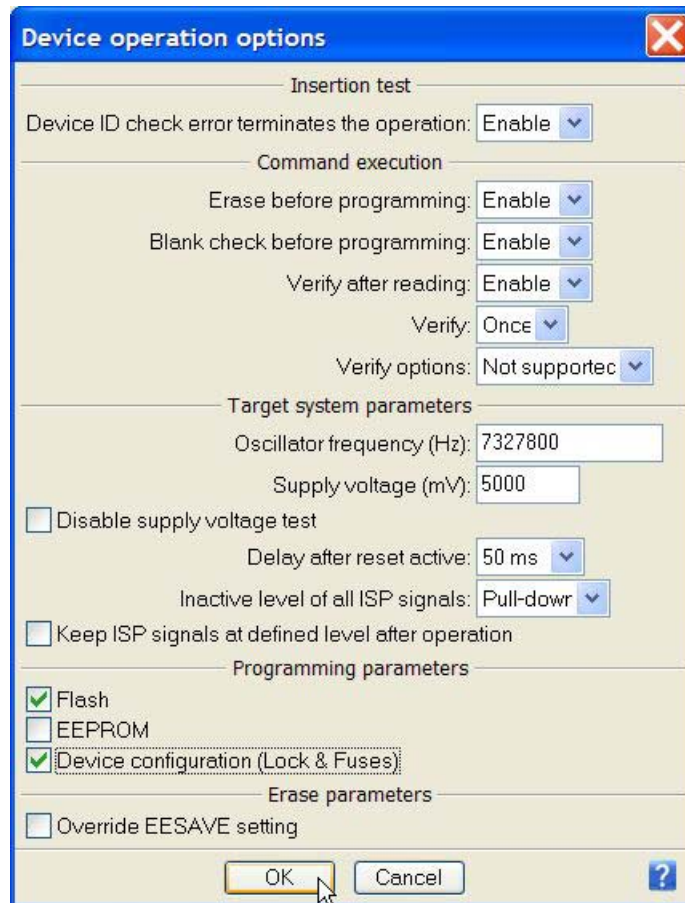

FIGURE D14: OPERATION OPTIONS SETTINGS WITH PG4UW
- j) Open the operative options window with *Alt+O* or using the the icon in main window of **PG4UW**. In that window perform the the settings for user application, and remember that those ones are important for ISP connection and Mini Module working. Figure D14 shows a setting for demo execution where it erase the device, program and verify the FLASH, programm and verify the fuses, programm and verify the Lock bits..